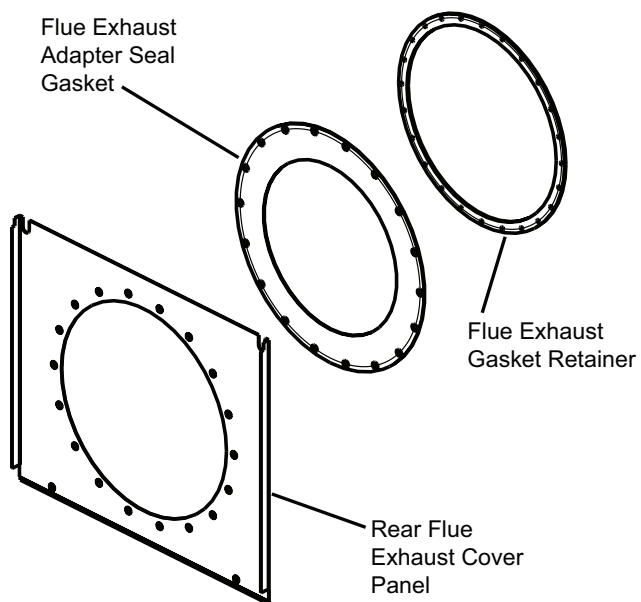

Fig. 6: Rear Flue Exhaust Cover Panel
7. Install the flue exhaust gasket retainer and the flue exhaust adapter seal gasket (F) (removed in step 3 of the previous section) on the rear flue exhaust cover panel (see Fig. 6).